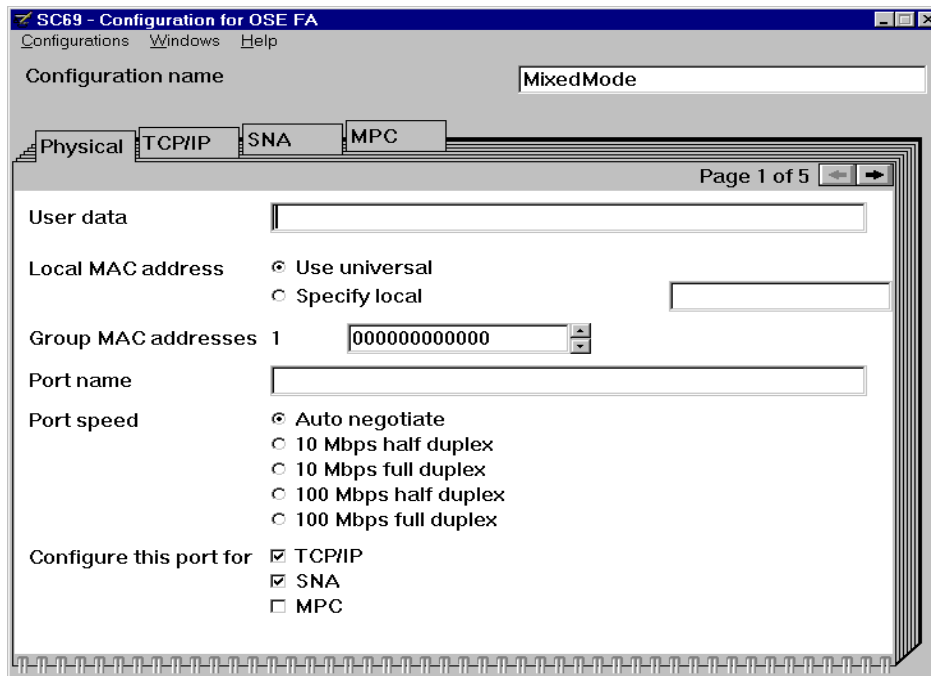

Figure 7-4 Add a new configuration
8. On the “Configuration for OSE FA” panel, shown in Figure 7-4, enter a configuration name in the Configuration name entry field. This is the name that will be displayed in the configuration list panel.
**Note:** MPC is not a supported option for the zSeries. If you are using a 9672 G5 or G6 and you want to use MPC, refer to “HPDT MPC (IP)” on page 8 for a discussion of this and a documentation list.